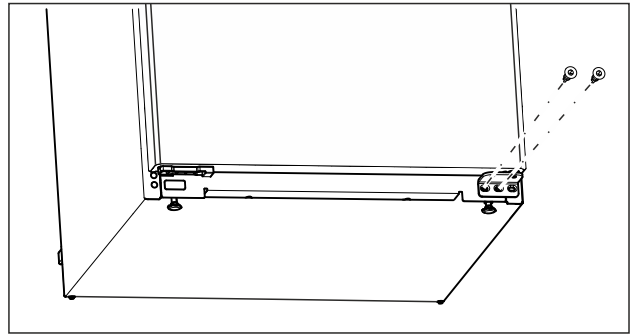

Fig. 7
- ▶ Unscrew the middle screw on the lower swap bearing block with a Torx 20 screwdriver. (see Fig. 7)
- ▶ Unscrew the inner screw on the lower swap bearing block with a Torx 20 screwdriver. (see Fig. 7)